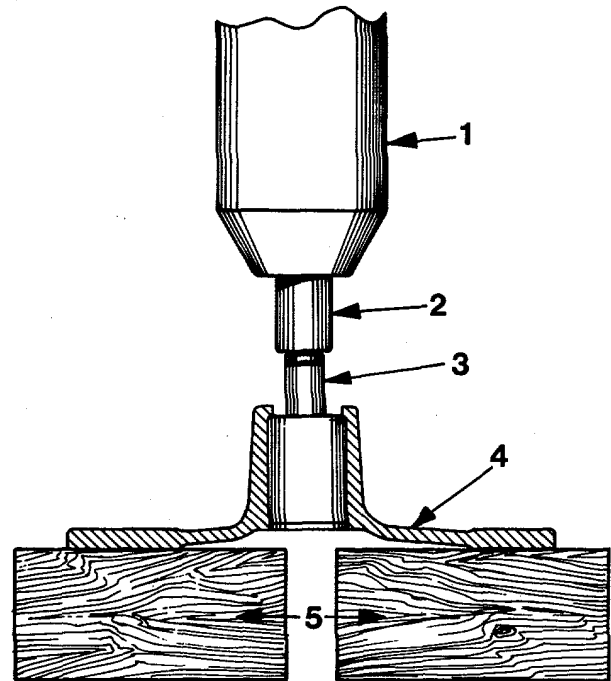
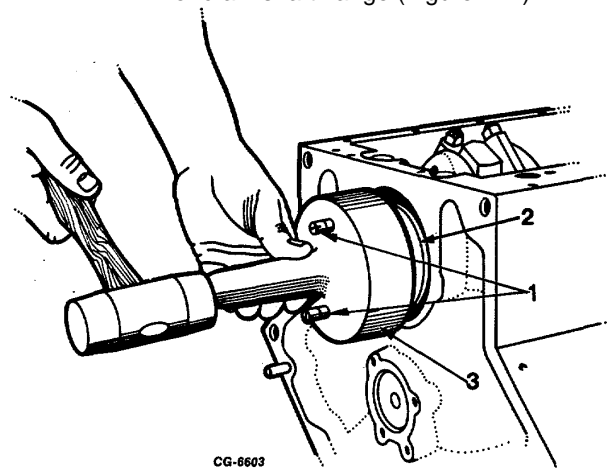

Fig. 139 Removing Bearing and Shaft Assembly
Fig. 141 Installing Oil Seal Wear Sleeve
4. Using remover adapter tool, press bearing and shaft assembly from fan mounting body (Figure 139).
- a. Install aligner studs SE-2092-3 into end of crankshaft flange (Figure 141).
- c. Position installer tool SE-2092-1 over aligner studs (Figure 141) and drive wear sleeve onto crankshaft flange until installer tool seats against crankcase. This will correctly locate wear sleeve (Figure 139).